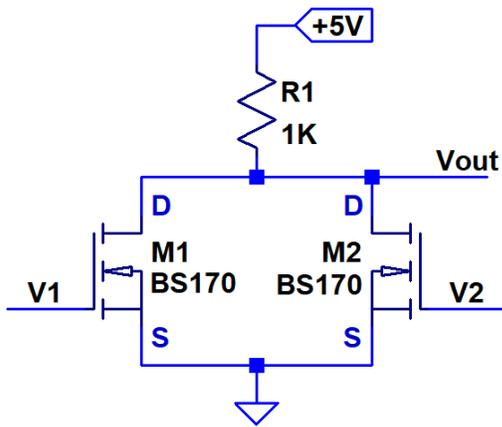

Fig. 2. Logic circuit 1.
- a. Construct the circuit of Fig. 2. Use the 6V supply for the 5V power supply and the two input voltages. Use the multimeter to measure  $V_{out}$  with 2 digits of precision.
4. Determine the logic functions of the circuits in Figs. 2 and 3 from their input/output tables. Assume output voltages above 2.5 V are logic 1 and those below 2.5 V are logic 0.